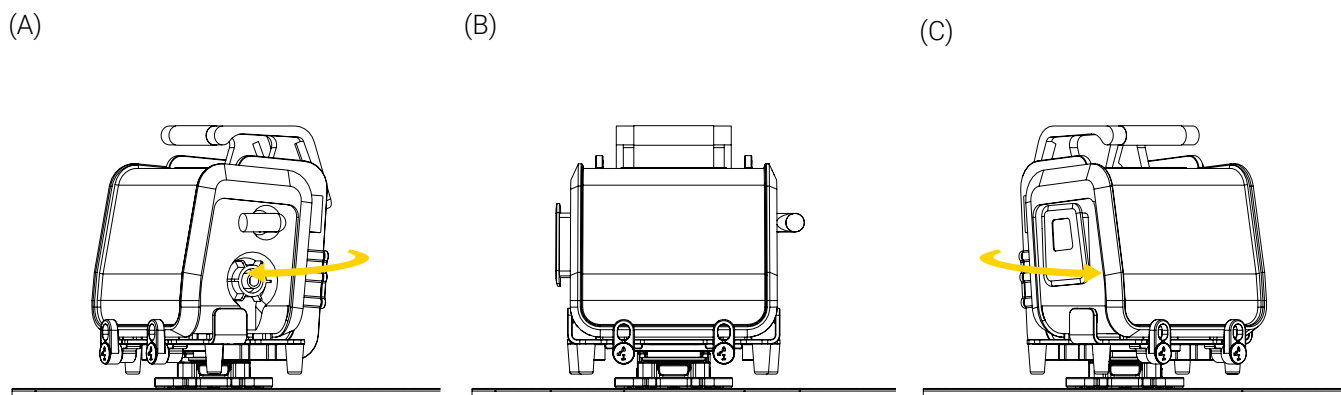

Figure 18: Rotating the Bracket Pro Serie 60 – FL or BP60–FL
3. Turn the bracket up to 360° clockwise or counterclockwise to the desired position (Figure 18) using the medical device's top handle.